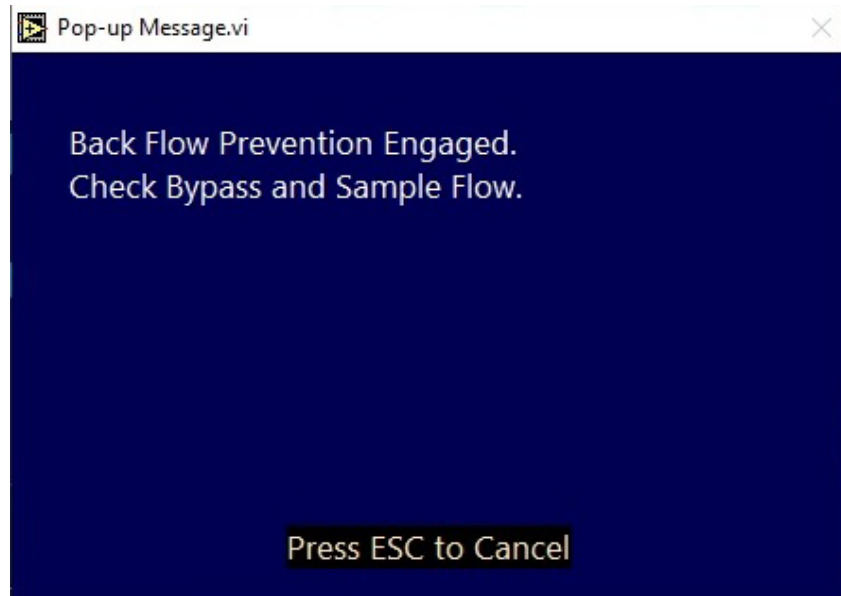

Figure 13: Back Flow Prevention Warning
During normal operation, gas flow is constantly monitored by a flow switch mounted in the bypass loop that is set to trip when the flow drops below 0.1 lpm. When flow is reduced, the switch will automatically activate the gas panel isolation valves. In addition, the pressure reading will be forced to zero. When the system detects a zero-pressure reading, a message will be displayed which states that backflow prevention is engaged and to check sample and bypass flow. See **Figure 13**. The event also triggers a system alarm (192) for the moisture cell. See page 53 for additional information on system alarms.